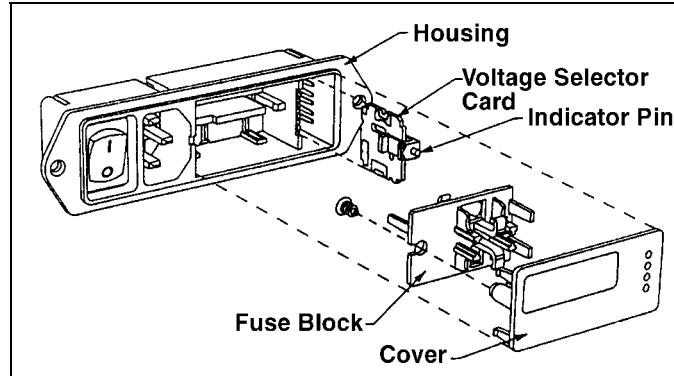

Figure 2-1
1. Disconnect the power from the Model 3025A and remove the line cord. Locate the power-entry module on the back panel of the Model 3025A (Figure 2-1).*
2. Lift off the cover of the fuse and voltage module cover on the back panel of the Model 3025A using a small-blade screwdriver or similar tool (Figure 2-1). Set aside the cover/fuse block assembly.
3. Grasp the indicator pin and pull the voltage-selector card straight out of the housing (Figure 2-1).
2. Lift off the power-entry module on the back panel of the Model 3025A using a small-blade screwdriver or similar tool (Figure 2-1).